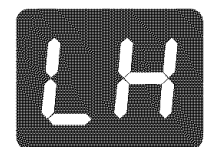

Fig.6
2. Touch the  key pad located in the main control area. The associated display will show **LH** (low heat - Fig. 6) indicating that the Cooking Element is properly set to Warm & Hold. If no other key pads are pressed the control will activate the desired Cooking Element at the Warm & Hold setting.